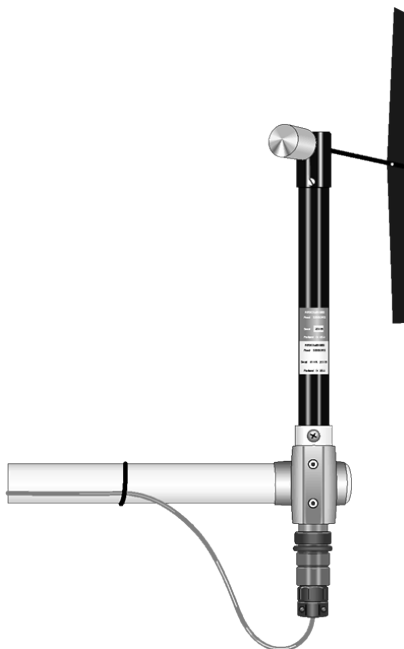

FIGURE 4-2. The 024A mounted to a crossarm via the 17953 NU-RAIL
6. Insert the sensor in the CM220 or NU-RAIL fitting (see FIGURE 4-2).
The 024A can be attached to a crossarm via a 17953 NU-RAIL fitting (see FIGURE 4-2 in QuickStart) or a CM220 Right Angle Mounting Bracket (see FIGURE 7-1). Alternatively, the 024A can be attached to the top of our CM110, CM115, or CM120 tripods via the CM216 Sensor Mounting Kit (see FIGURE 7-2). The CM216 extends 4 inches above the tripod mast.